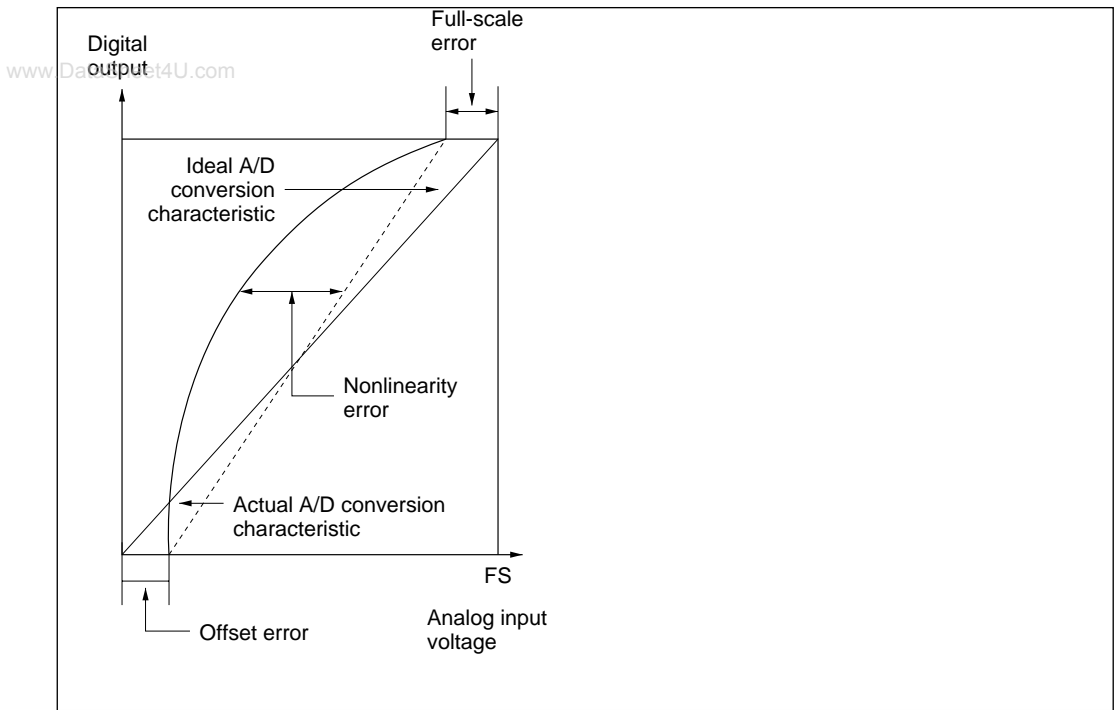

Figure 15-10 A/D Converter Accuracy Definitions (2)
- Offset error:Deviation from ideal A/D conversion characteristic of analog input voltage required to raise digital output from minimum voltage value 0000000000 to 0000000001 (figure 15-10)
- Full-scale error:Deviation from ideal A/D conversion characteristic of analog input voltage required to raise digital output from 1111111110 to 1111111111 (figure 15-10)